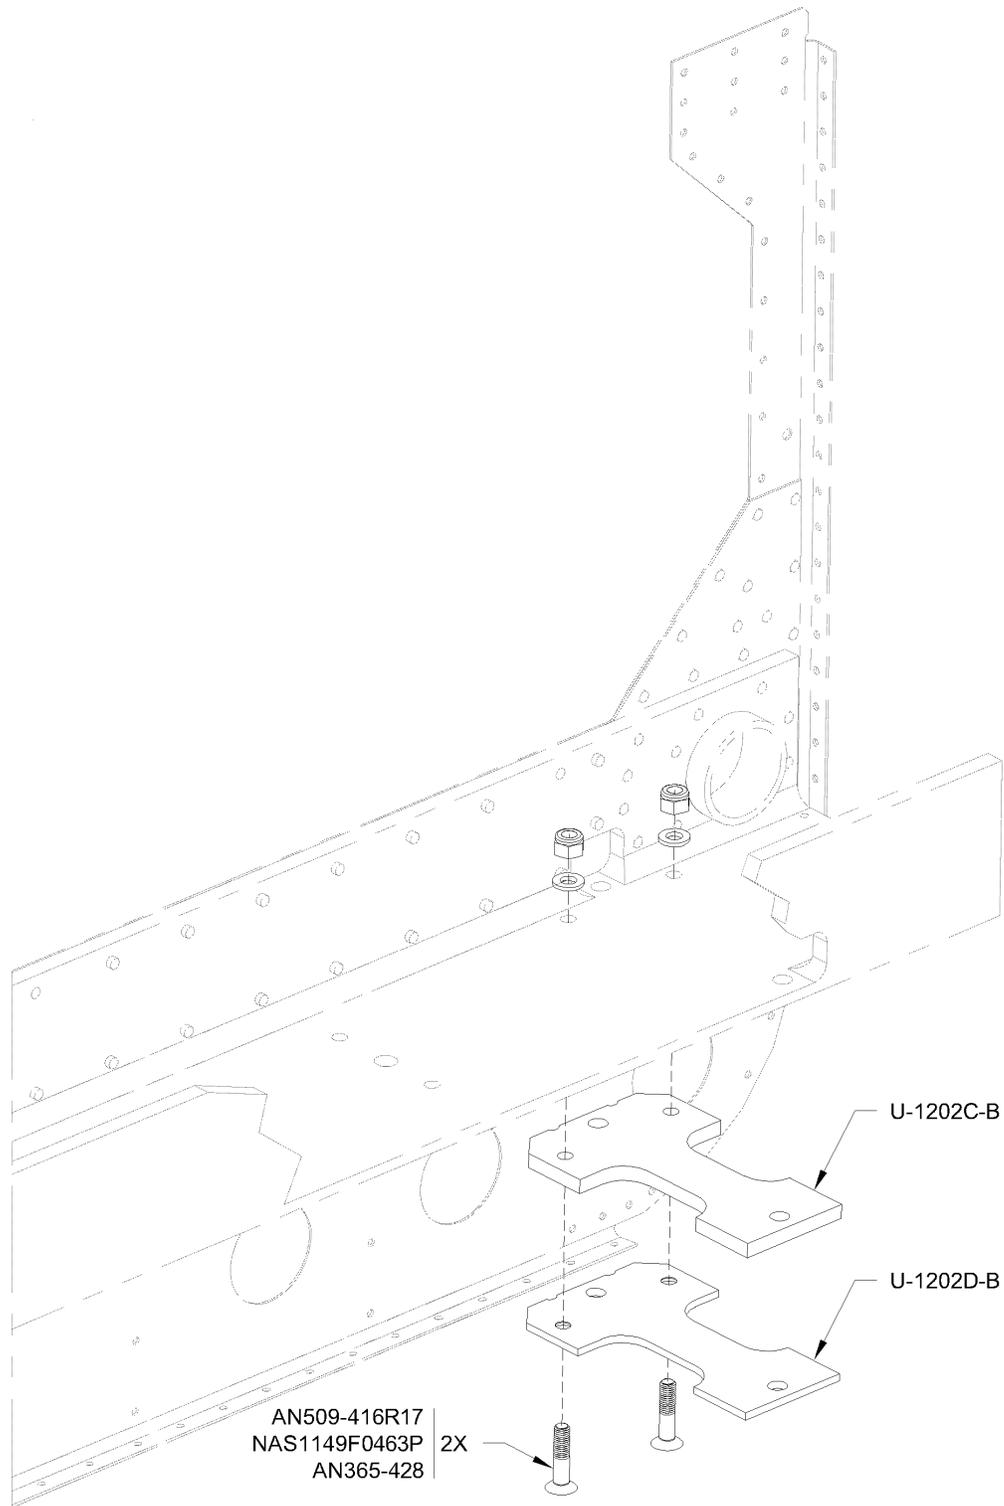

FIGURE 20: INSTALLING THE OUTBOARD DOUBLER AND WEAR PLATES
Step 45: Install the U-1202C-B Outboard Doublor Plate and U-1202D-B Outboard Wear Plate to the F-1204 Center Section Assembly as shown in Figure 20. Use 2 temporary AN5 bolts as alignment pins to assure alignment while torquing the nuts on the screws.